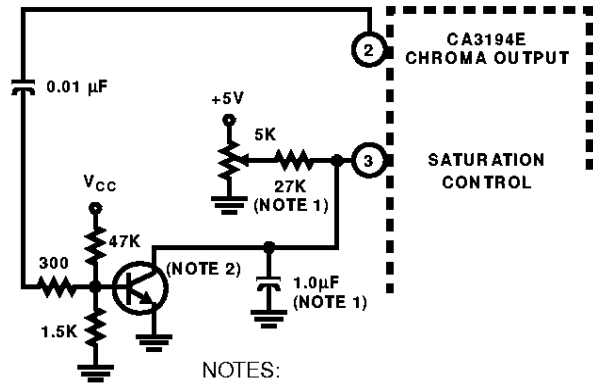

FIGURE 18. EXTERNAL OVERLOAD DETECTOR
2. Use of the circuit of Figure 18 is suggested to prevent increased color saturation at low level RF signals.